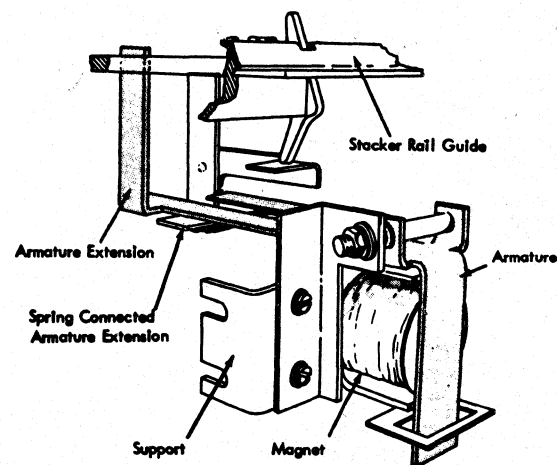

Figure 70. Offset Stack Magnet
2. Loosen the two screws in magnet support (Figure 70).